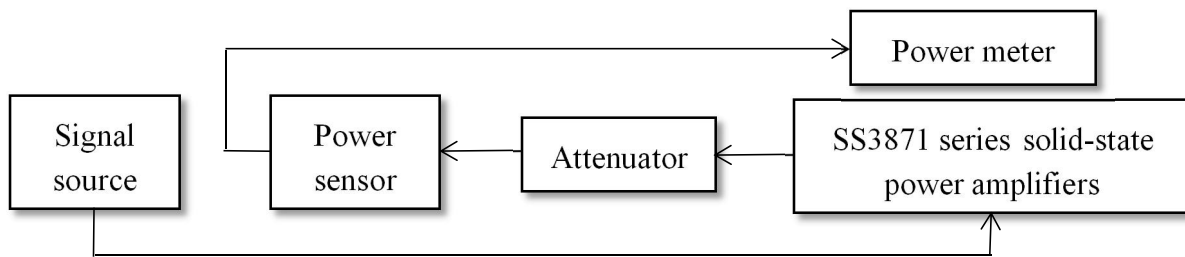

Figure 5-2 Diagram for testing of max. output power, max. input power and output power flatness
The specific operation steps for testing the following indicators are provided according to the testing instrument shown in the figure. When other testing instruments with the same performance characteristics are used for testing, please refer to the User Manual of such instruments for the specific operation. A signal source and a power meter as shown in Figure 5-2 can also be used to test the gain.
- ① Max. output power test: connect the instrument as shown in Figure 5-2, set the working frequency range of the signal source to 32GHz - 40GHz with the stepping by 0.5GHz, set the output power of the signal source connected to the input port of the amplifier to 0dBm or any other value that can make the amplifier in the working state of saturated output, record the reading on the power meter at each test frequency point, and calculate the sum of the max. output power degree and the attenuation value on the attenuator, which is just the max. output power.
- ② Max. input power test: observe the working state of the amplifier at the max. input power. It is required that the amplifier should be able to work normally without damage at each test frequency point and return to the original working state when it is lower than the max. input power.
- ③ Output power flatness test: place the internal amplitude stabilization key on the rear panel of the instrument to the "Internal Amplitude Stabilization" working state, test and record the output power of the 1dB compression point at each test frequency point, and calculate the average value of the max. and min. output powers. Neither the max. nor the min. output power should exceed the flatness requirement, namely, it should be in the range of 3dB above the average value and 3dB below the average value.
**(4) 1dB Compression Point Output Power Test**
Connect the instrument as shown in Figure 5-2, set the working frequency range of the signal source to 32GHz - 40GHz with the stepping by 0.5GHz, set the output power of the signal source connected to the input port of the amplifier to -30dBm or any other value that can make the amplifier in the working state of linear amplification, increase the output power of the signal source, record the reading on the power meter when the gain is compressed by 1dB, then calculate the sum of this value and the attenuation value on the attenuator, which is just the output power of the 1dB compression point.